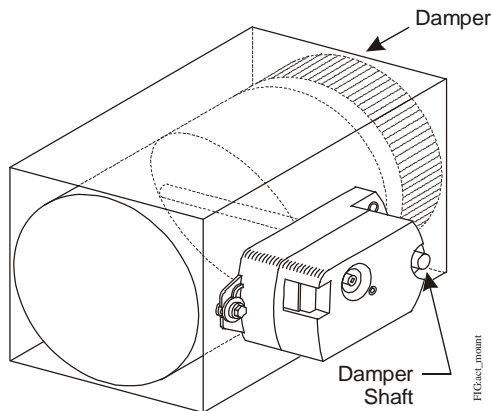

Figure 4: Mounting the Actuator onto the Damper Shaft
3. Make a note of the rotation range and direction, either clockwise (CW) or counterclockwise (CCW), required to close the damper.
- Position the actuator onto the damper shaft so that the damper shaft protrudes through the actuator coupler, as illustrated in Figure 4.